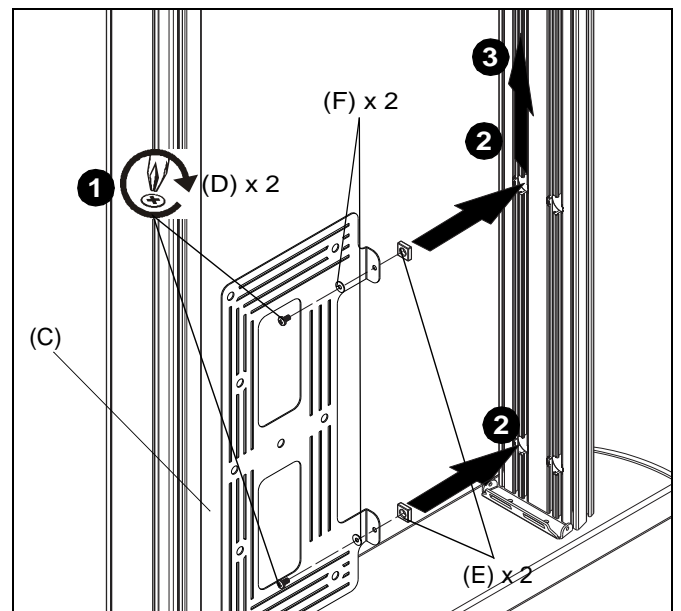

Figure 11
1. Loosely install two #10-24 x 3/8" Phillips head machine screws (D) through two #10 washers (F), holes in component bracket (C) and into two #10-24 square nuts (E). (See Figure 11)
2. Insert two #10-24 square nuts (E) into two openings on column channel. (See Figure 11)
3. Lift component bracket (C) to desired mounting position. (See Figure 11)
4. Tighten screws to secure in position. (See Figure 11)